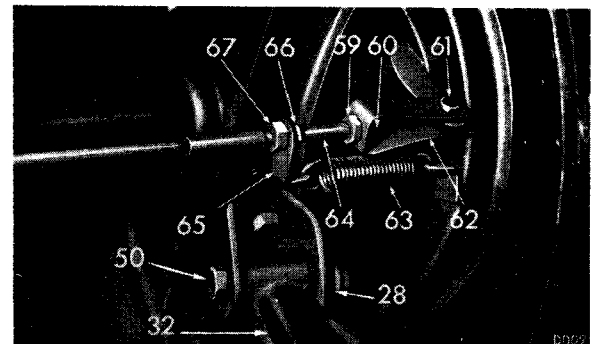
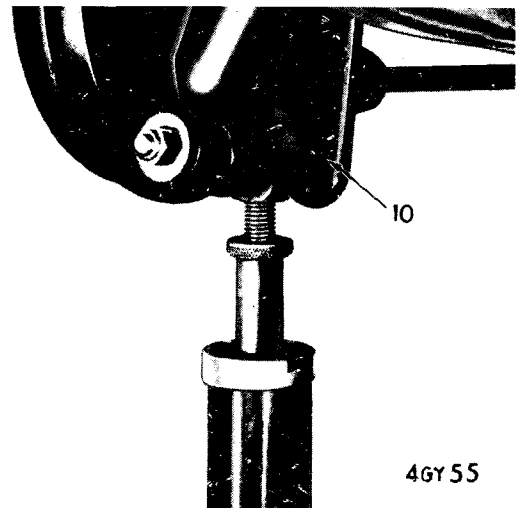

Fig. 21. Handbrake connections
Fig. 29. Jacking vertical link
2. Disconnect the handbrake cable (64) from the backplate lever by withdrawing the clevis pin (61). Disconnect the spring (63), Fig. 21.
2. Refit the three studs (42) with the shorter threaded portion leading, into the axle casing. Refit the spring clamp plate (3) and tighten the nyloc nuts (4).
4. Attach the vertical links (10) to the spring eyes using bolts (46), washers (12) and nyloc nut (11). Do not tighten the nut (11) at this stage.
5. Jack up the vertical links (10), fit the dampers and reconnect the axle shaft couplings.
6. Connect the handbrake cable to the back-plate lever, refit the pull-off spring (63), Fig. 21, and reconnect the flexible brake hose. Adjust and bleed the brakes.
7. Place a trolley jack under the differential casing, remove the chassis stands and, with the vertical links supported at their running height, load the car and lower its rear end until the axle shafts assume their static laden operating position. This is to allow the rubber bushes to assume their correct working position before tightening the nuts (11), (8) and (13).
1. Jack up the vertical link (10) to relieve the damper (9) of load, as shown on Fig. 29, remove the bolt (44) from the upper attachment and the nyloc nut (13) from the lower damper eye.
1. Jack up under the vertical link to relieve the damper of load as shown on Fig. 29.
- the brake hose (57) from its steel pipe and chassis bracket;
- the handbrake cable (64) from the back-plate lever, and return spring (63) Fig. 21;